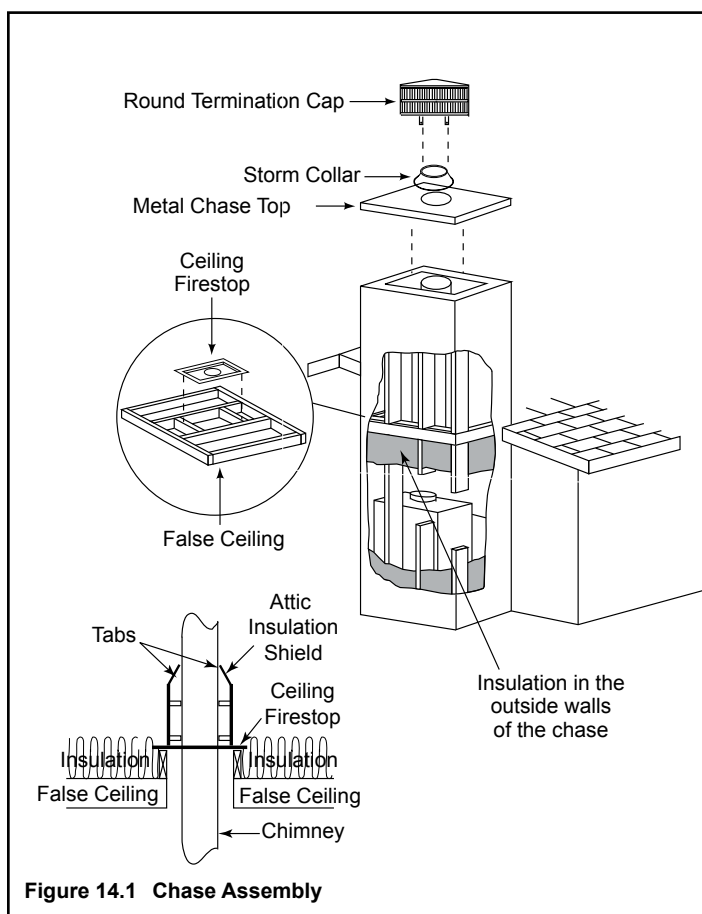

Figure 14.1 Chase Assembly
Walls, ceiling, base plate and cantilever floor at the first level of the chase should be insulated. See Figure 14.1. Vapor and air infiltration barriers should be installed in the chase as per regional codes for the rest of the home. Additionally, Hearth & Home Technologies recommends that the inside surfaces be sheet rocked and taped (or the use of an equivalent method) for maximum air tightness.
- 4) In cold climates, the walls of the chase should be insulated to the level of the false ceiling as shown in Figure 14.1. This will help reduce heat loss from the home around the fireplace.